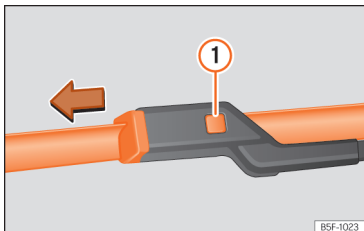

Fig. 63 Changing the front wiper blades
- Hold down the release button »»» Fig. 63 while gently pulling the blade in the direction of the arrow.